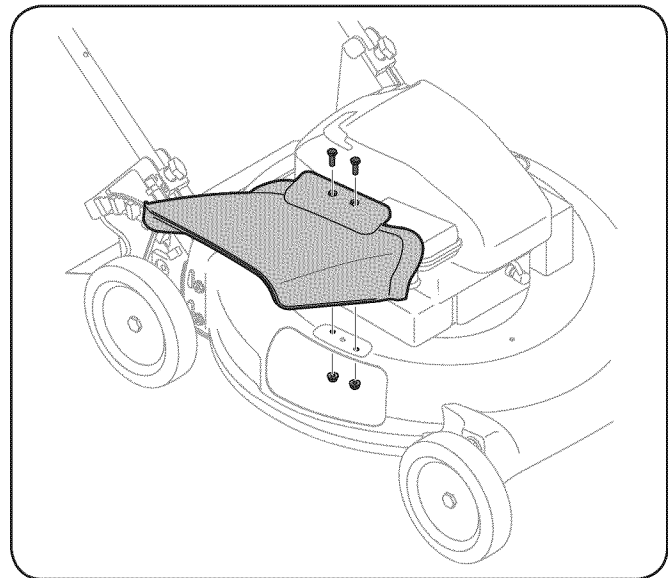

Figure 3-7
- Align the holes on the chute deflector with the corresponding holes on the deck surface. See Fig. 3-7.